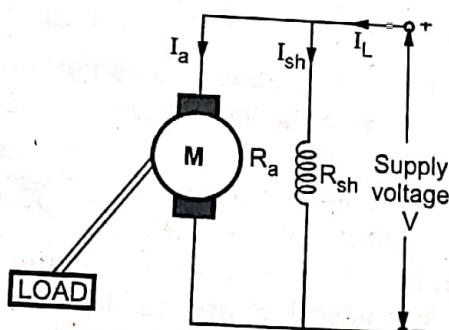

Fig. Q.45.1 D.C. shunt motor
1. **D.C. shunt motor** : The field winding is connected across the armature winding and the combination is connected across the supply, as shown in the Fig. Q.45.1.